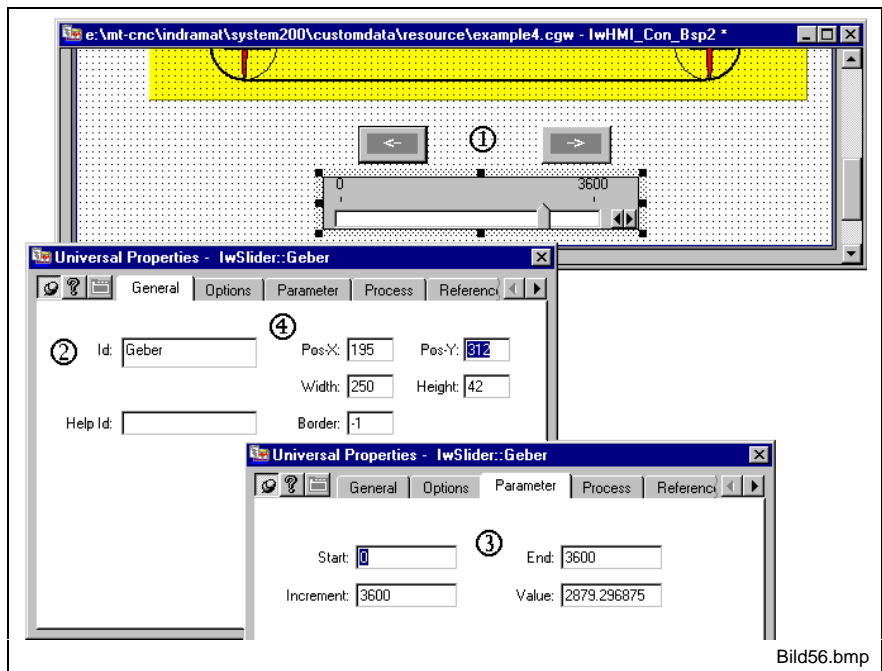

Fig. 6-6: lwSlider object
The Properties window of lwSlider: Geber opens, see Fig. 6-6: lwSlider object (4).
lwSlider becomes visible, see Fig. 6-6: lwSlider object.